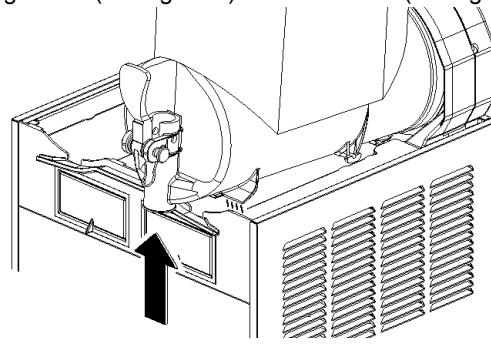
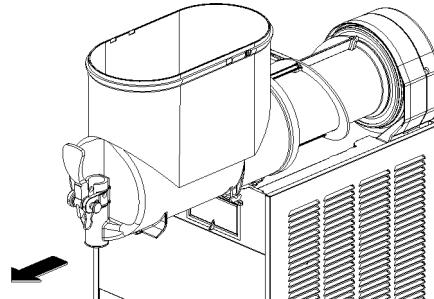

figure 6
figure 7
**2** Remove the bowl by lifting its faucet side up and off the fastening hooks (see figure 6) and slide it out (see figure 7).